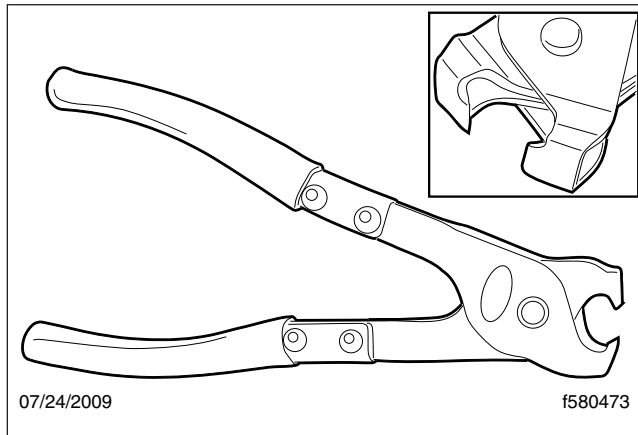

Fig. 8, Oetiker Clamp Tool, P/N 14100037 or 14100082
- 14.3 Using an Oetiker clamp tool like the one shown in Fig. 8, crimp the small and large Oetiker bellows clamp ears until the